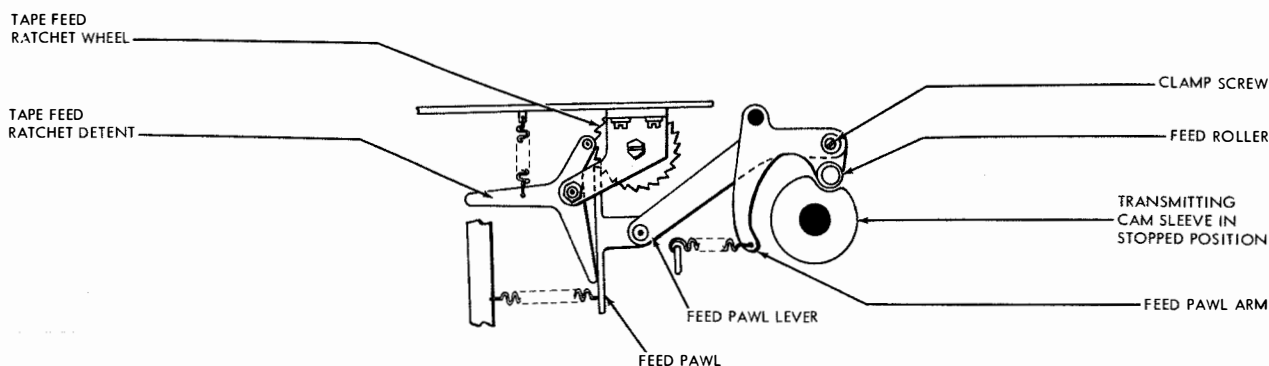
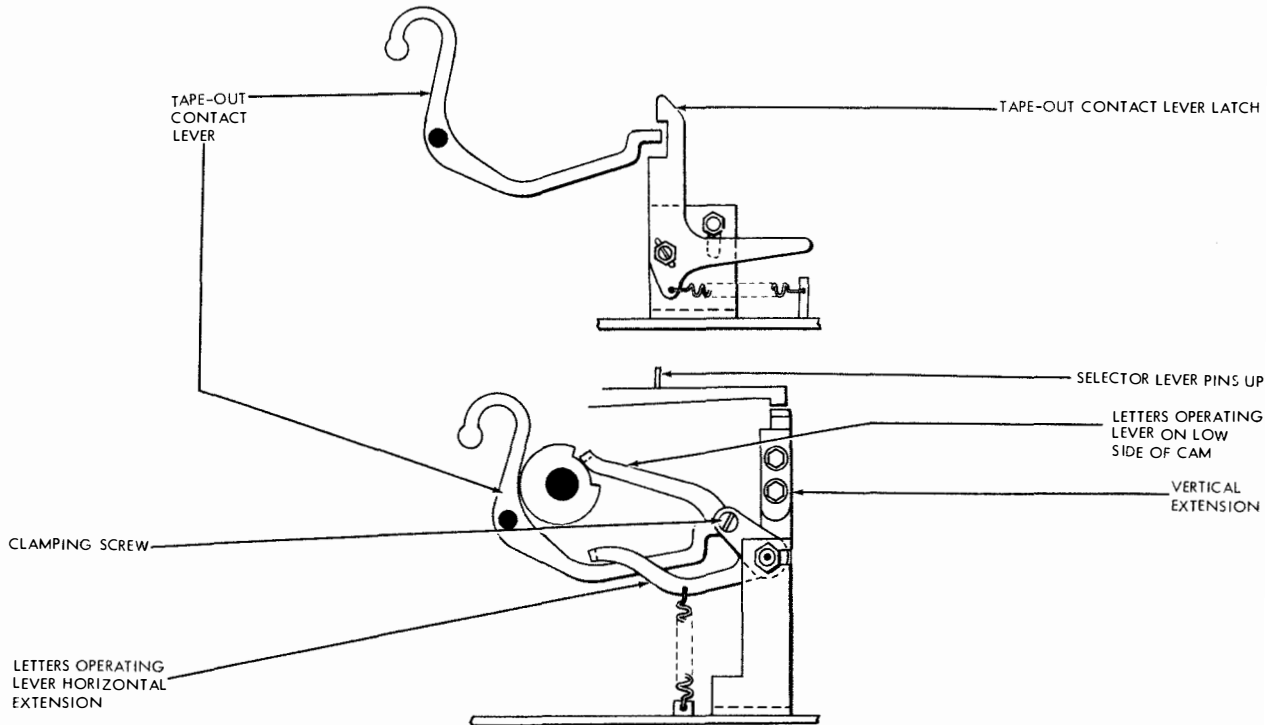

Figure 2-56. Tape Feed Ratchet in Advanced Position
Figure 2-64. Letters Operating Lever on Low Side of Cam
1. The letters sensing mechanism consists of a combination of levers actuated by a cam on the cam sleeve (see figures 2-56, 2-62, 2-63, and 2-64). The operating lever which rides on the cam is an integral part of the vertical extension positioned along the ends of the five selector levers. When a selector lever is in the spacing position (down), the end of this selector lever blocks the vertical extension when the letters operating lever is dropped into the indent of its cam. This is the case when a number is being transmitted, since there are no number combinations where the selector levers are all in their marking position. After the number has been transmitted and the tape advanced to the letters code combination, all the selector levers are up in their mark position. The upper extension is then free to move when the operating lever is dropped into the indent in its cam (see figure 2-64).
(see figure 2-64). When the letters operating lever drops into the indent of its cam, the horizontal extension is also actuated, if the selector levers are all in their marking position. The horizontal extension actuating the tape-out contact lever causes the contact points to open. When the contact points are opened, the external control relays are pulsed, and the numbering distributor-transmitter is stopped and a message distributor-transmitter is started.